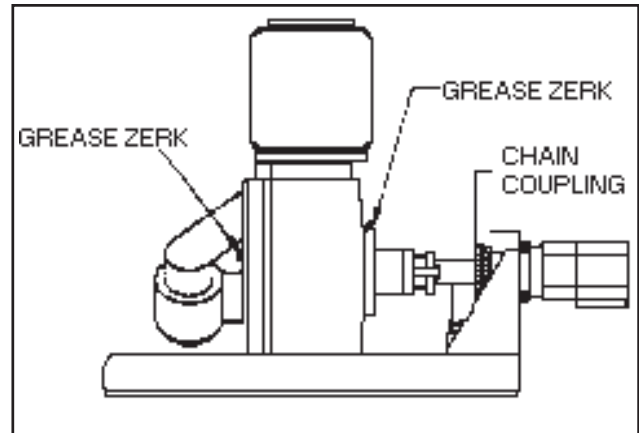

FIGURE 4-1. ASPHALT PUMP
1. Lubricate asphalt pump bearings, 2 locations (Figure 4-1) every 3 hours or twice daily.